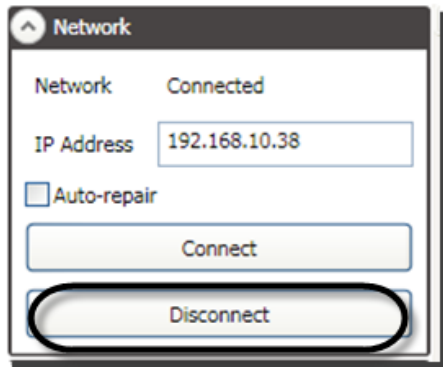

Figure 119
2. Press the **Disconnect** button in the **Network** section of the **Stagehand Motor** or **FX Editing Pane** (Figure 119).